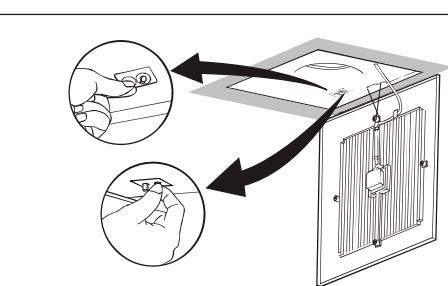

Fig.7
9. Adjust high / low delay time preset switch and low speed air volume preset switch (Fig.7). Refer to switch indication on page 6. (FV-13VKM3, FV-08VKM3, FV-13VKS3 and FV-08VKS3)